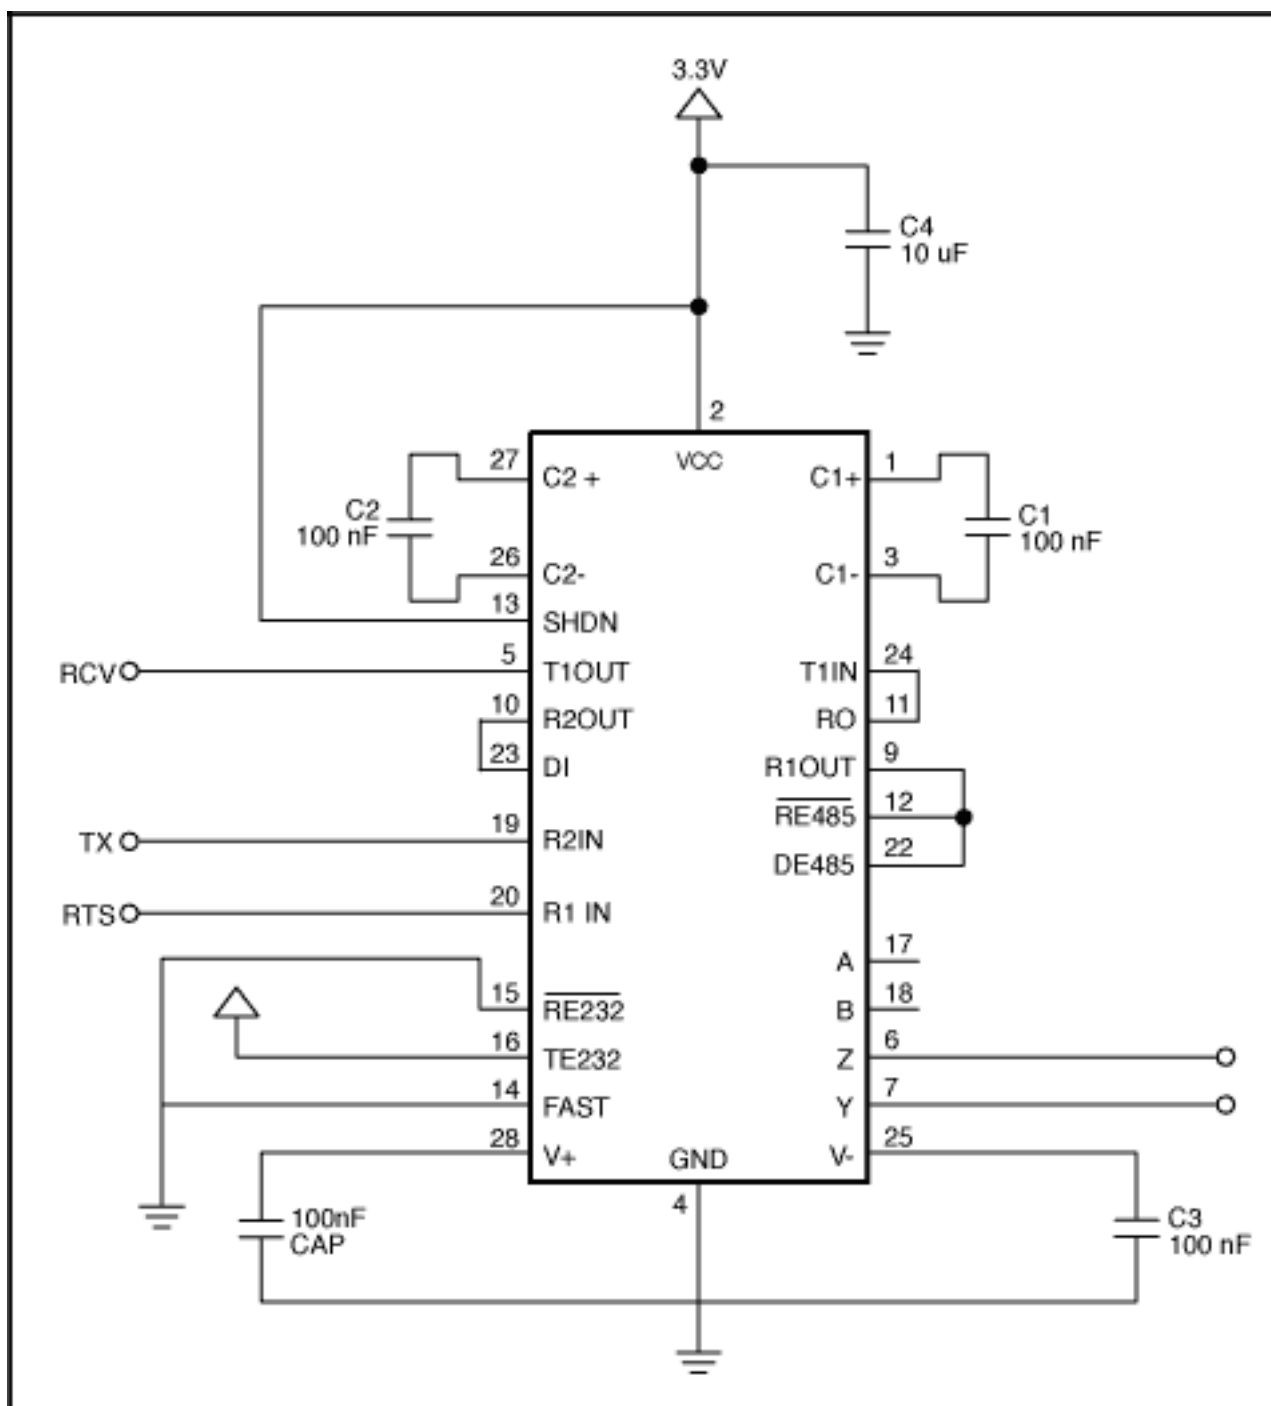

Figure 9. The above figure utilizes the MAX3162 to convert bi-directionally between RS-232 and RS-485 signals in a multi-point application.
Figure 9 shows the MAX3162 configured as an RS-232/RS-485 multi-point protocol translator. The direction of translation is controlled through the RTS signal R1IN. The single-ended RS-232 receiver input signal is translated to a differential RS-485 transmitter output. Similarly, a differential RS-485 receiver input signal is translated to a single-ended RS-232 transmitter output. RS-232 data received on R2IN is transmitted as an RS-485 signal on Z and Y. RS-485 signals received on A and B are transmitted as an RS-232 signal on T1OUT.
The RTS line offers a common means for controlling bus direction in circuits that convert from RS-232 to RS-485. This line on the RS-232 port controls whether the RS-485 transceiver acts as a transmitter or a receiver (Figure 9). Note that the system cannot be sure that a byte of data in the UART's transmit buffer has been transmitted unless the system monitors the RS-485 driver input (DI). That is, the system must either allow for a fixed time delay or actively monitor the DI input before using the DE input to change the bus direction.